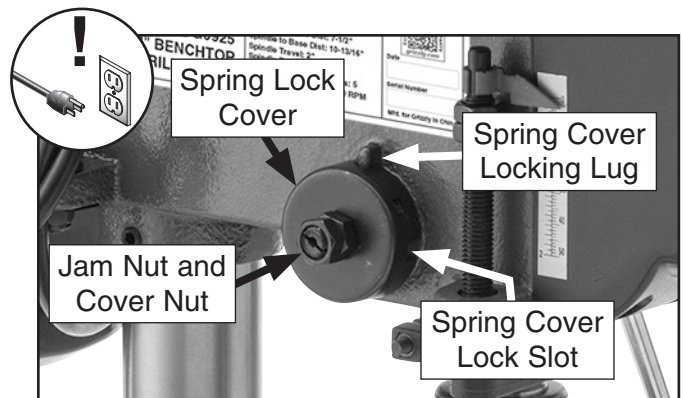

Figure 41. Spindle return spring assembly.
3. Wipe any oil off spring lock cover so it does not slip in your fingers when you hold the cover from spinning (see **Figure 41**).
4. Hold spring lock cover against side of headstock so the cover stays splined with locking lug, as shown in **Figure 41**, then loosen jam nut and loosen cover nut approximately 1/4" each.
5. Wearing gloves, pull spring cover (see **Figure 41**) outward just enough to disengage spring-cover lock slot from locking lug.
7. Engage next available spring-cover lock slot with locking lug (see **Figure 41**) and hold spring lock cover tightly to side of headstock.